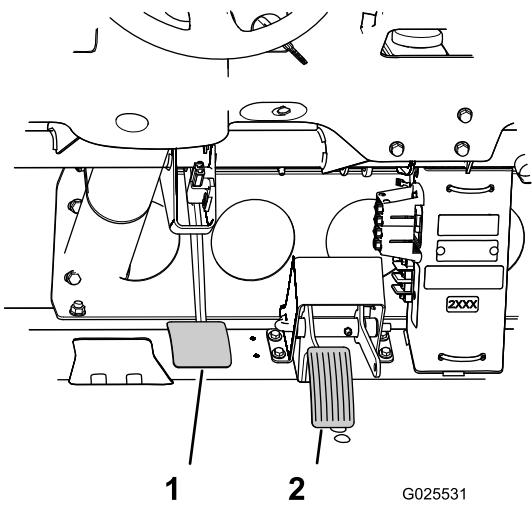

Figure 77
3. Lift up on the brake pedal (Figure 77) until it contacts the frame.